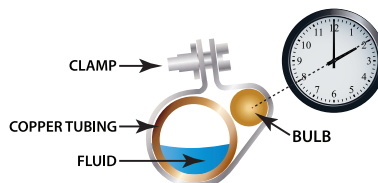

Figure 10. TXV Bulb Placement
2. The sensing bulb should be installed outside the coil case on a horizontal section of the suction line if possible (See Figure 9) and should be positioned between 10 o'clock and 2 o'clock as shown in Figure 10.